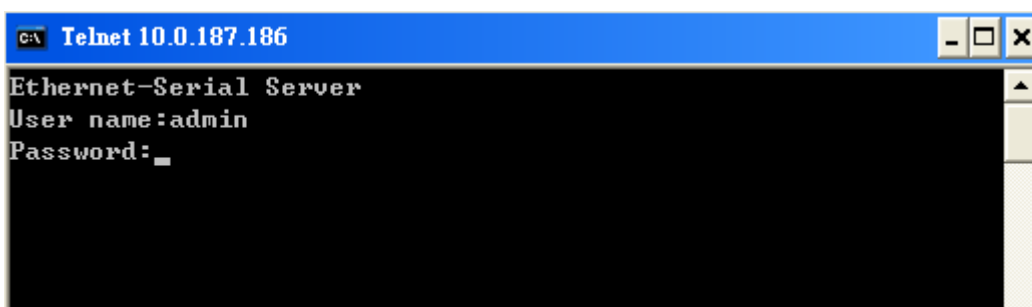

Figure 3.4 Login to the system
->Telnet to SE5001 using command “**telnet IP\_address**”. (For example : “**telnet 10.0.50.100**” in MS-DOS command prompt window). After telnet into SE5001, system will prompt for a password, the default password is “**default**”. (Figure 3.4)